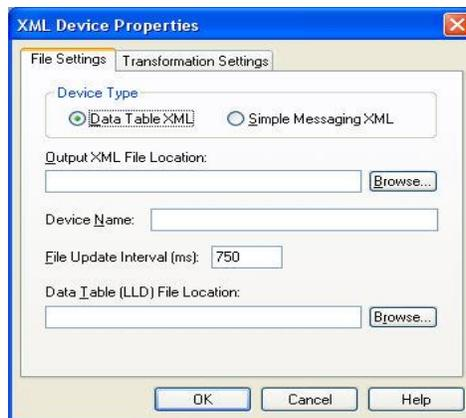

Figure 29
4. The XML Device Properties dialog appears (Figure 29).